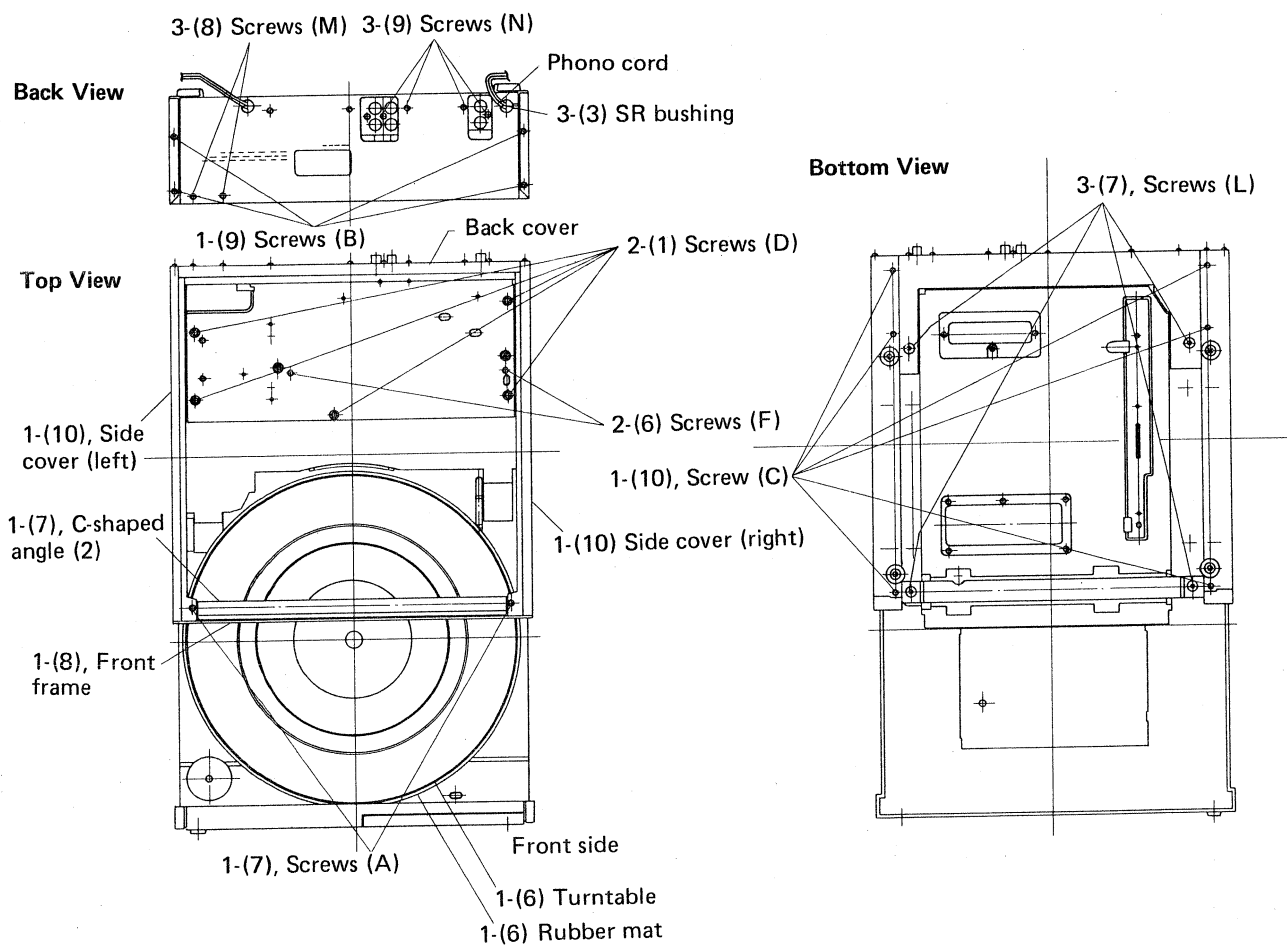
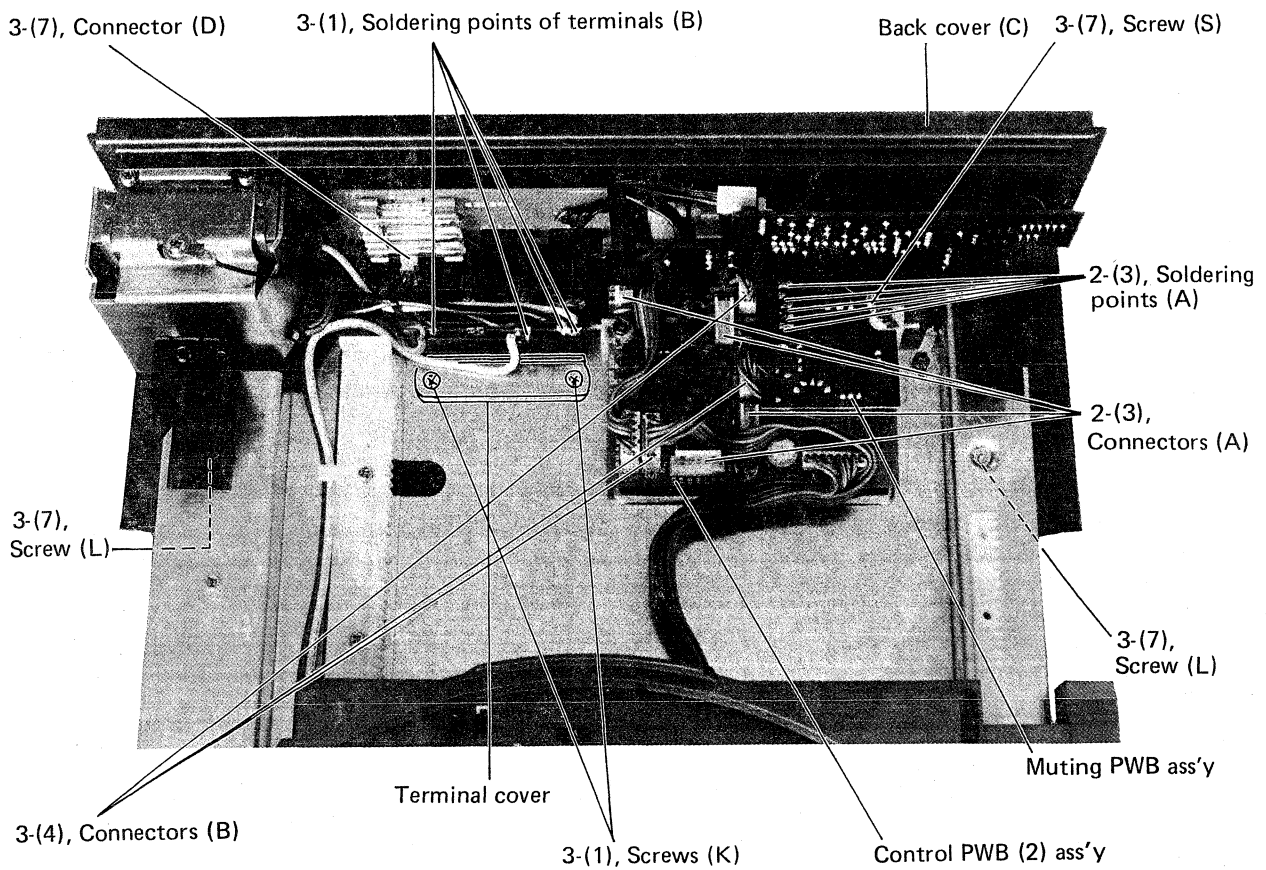

Fig. 1
Fig. 15
1. Disassembling Housings (See fig. 1)
- (1) Move tonearm base to the center of guide bar and then remove 5 pcs. of screws (D) from tonearm chassis. (See fig. 1, 2)
- 3. Remove 2 pcs. of screws (F) from bottom side of tonearm chassis. (See fig. 1, 2)
- (1) Unsolder 4 pcs. of terminals (B) and remove 2 pcs. of screws (K) from terminal cover. (See fig. 15)
- (2) Unsolder a grounding wire of back cover (C) from muting circuit ass'y. (See fig. 15)
- (3) Remove phono cord and SR bushing from back cover. (See fig. 1)
- (4) Disconnect connector (B) connected between back cover PWB and Control PWB (2). (See fig. 15)
- (5) Push down brush into cabinet.
- (6) Place turntable unit onto the table upside down.
- (7) Remove 2 pcs. of screws (L) from back cover so that the cover is disassembled. (See. fig. 1, 15)
- (9) Remove 4 pcs. of screws (N) from back cover so that power supply circuit (2) is dismantled. (See fig. 1, 9)